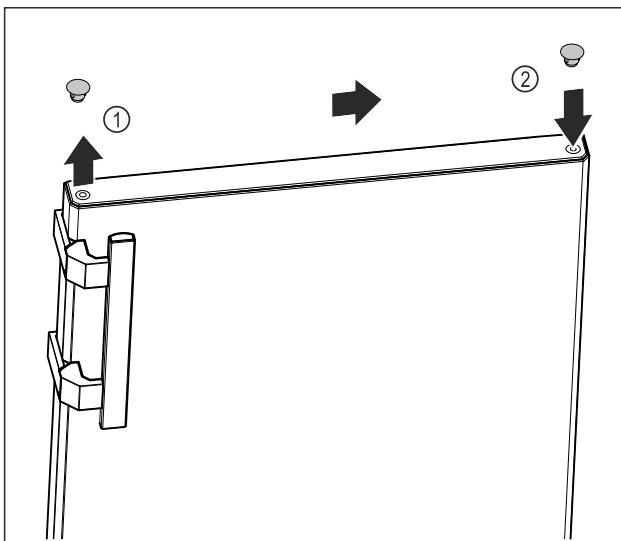

Fig. 16
- Carefully lift the cover plug on the top of the door Fig. 16 (1) with a slotted screwdriver.
- Insert the cover plug on the opposite side. Fig. 16 (2)